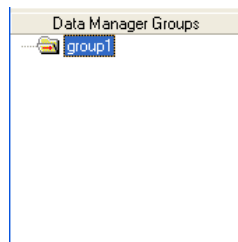

Figure 19 - New Group
4. Click on the **OK** button. If the group is created successfully, it will appear as a folder in the Data Manager Groups panel (Figure 19). The group name appears in lowercase characters, and the icon adjacent to the name is either  for a unidirectional group, or  for a bidirectional group.